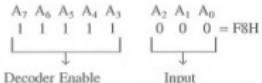

Figure 55: Interfacing an Input and output using decoder
- In figure 55 all the 8 address lines are combined to generate one pulse for enabling the IO latch- This called **absolute decoding**